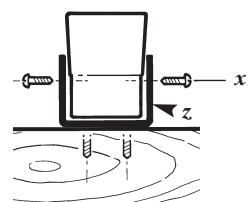

Fig.5
- 4 Secure the eight Metal Brackets (z) with 5cm screws (x) around the top of the frame - one on each post top - one in the centre of each rafter (see Fig.5) and secure the roof into position - long beams (C) toward the corners.